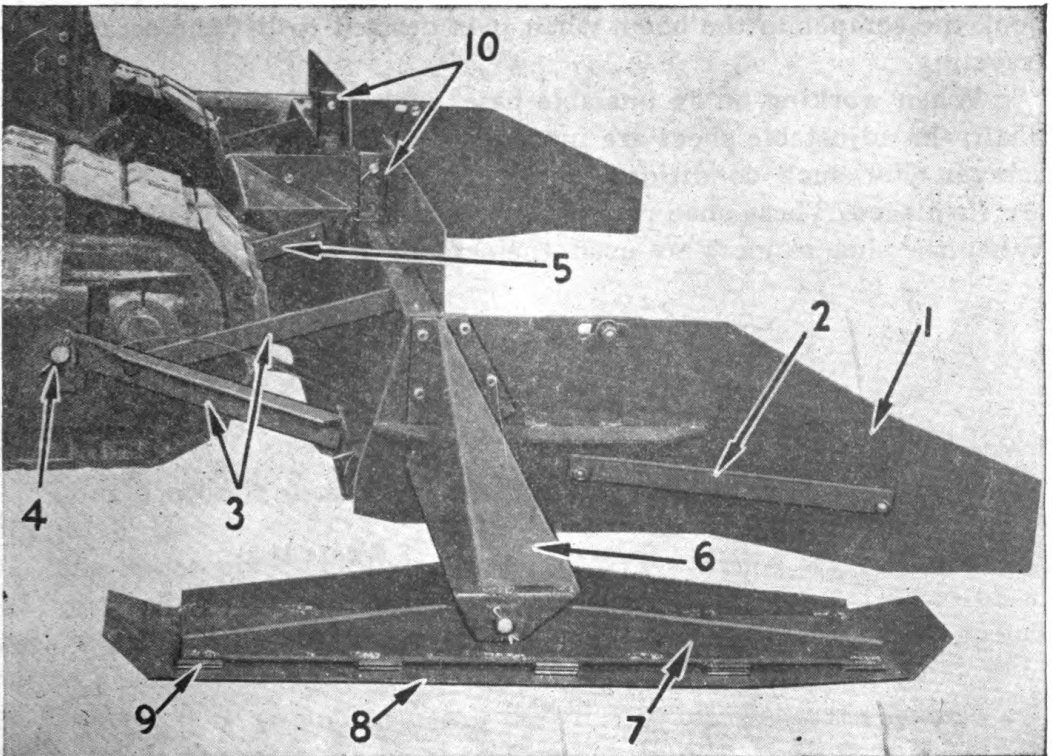
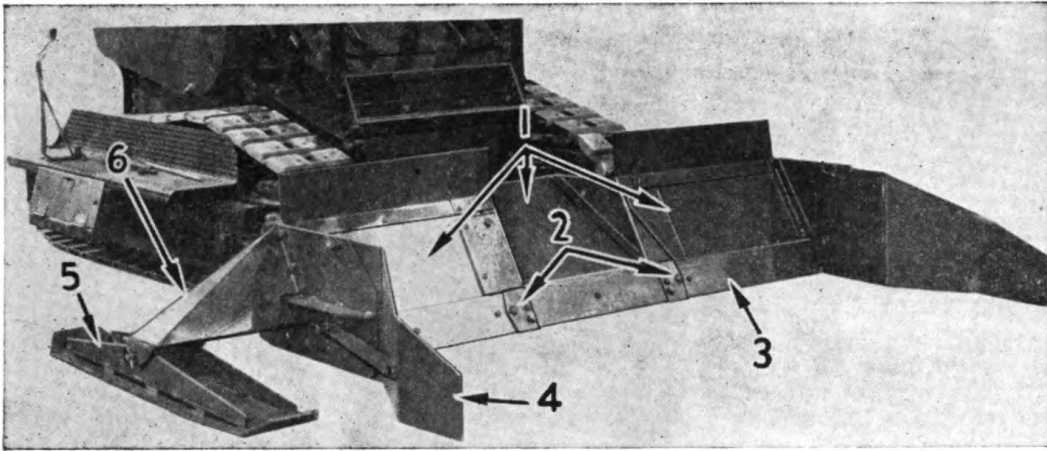
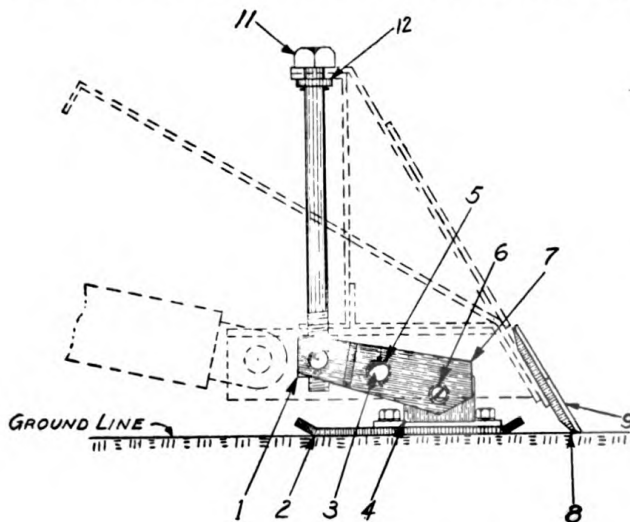

Figure 9
Figure 10
Figure 11
The Paving Loader is equipped with an adjustable floating cleanup scraper. (Figure 9 and 10). The scraper is made up in three sections (1), Figure 10, hinged together at (2), making possible clean pickup of materials on roads with varying crown. The scraper rides on four adjustable shoes, Figure 11, by which accurate control of the pickup of materials, is obtained. For average travel plant operation, the scraper is independent of the boom. Connecting chains are furnished, however, to hook the scraper to the boom when it is desired to lift the scraper for traveling.
When working on an unstable base, such as when mixing sand asphalt, the adjustable shoes are inadequate to support the weight of the scraper. For such conditions, outrigger shoe runners (5) Figure 10, are furnished. These shoe runners bolt to the outer end of the scraper. When the shoe runners are used, the scraper is set at desired crown by
inserting the proper amount of shims, at (1) Figure 9, between the angle clips at the hinge point of the scraper, and then bolting up rigid. Desired crown is then correctly and automatically maintained.
When the outrigger shoes are not required, and the cleanup scraper is to be used, the adjustment of the scraper shoes should be checked. Lower boom until scraper is on the ground and the lift chains are slack. Disconnect lift chains and raise boom so the spiral is clear of the ground. Remove the bolts and shims at (1) Figure 9, from the angle clips that fasten the hinged sections of the scraper together. The scraper section is now free to conform to the crown of the road. To raise scraper, force shoes (1) Figure 11, downward by turning adjusting bolts (2) to right. Reverse procedure to lower scraper.